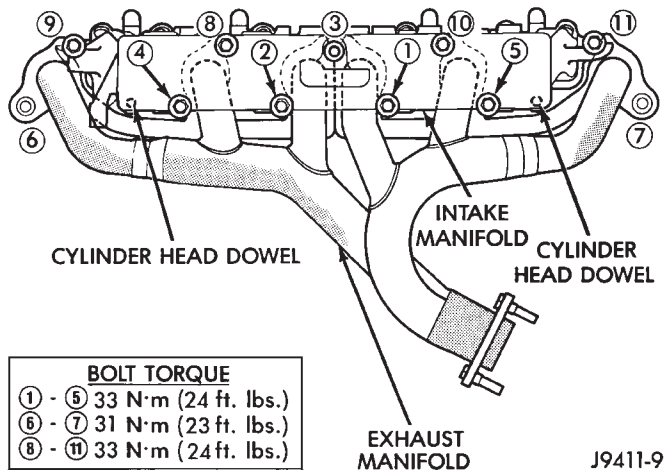

Fig. 10 Intake/Engine Exhaust Manifold Installation—4.0L Engine
(1) Clean the mating surfaces of the cylinder head and the manifold(s). If the manifold is being replaced, ensure that all the fittings, etc. are transferred to the replacement manifold.
(2) Install a new exhaust/intake manifold gasket over the alignment dowels on the cylinder head.
(3) Position the engine exhaust manifold to the cylinder head. Install fastener No.3 and finger tighten at this time (Fig. 10).
(4) Install intake manifold on the cylinder head dowels.
(5) Install washers and fasteners Nos. 1, 2, 4, 5, 8, 9, 10 and 11 (Fig. 10).
(6) Install washers and fasteners Nos. 6 and 7 (Fig. 10).
(7) Tighten the fasteners in sequence and to the specified torque (Fig. 10).
(8) Install the power steering pump and bracket to the intake manifold and water pump. Torque the power steering pump/bracket to manifold bolts to 28 N·m (21 ft. lbs.). Torque the power steering pump bracket to water pump bolts to 47 N·m (35 ft. lbs.).